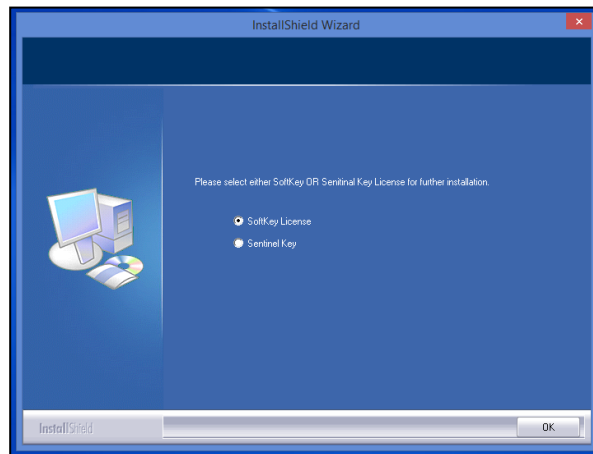

Figure 5. Software Key License
2. A warning message to activate the license will be displayed as shown in Figure 5.
- a. From the **CHOOSE AN OPTION** page (Figure 5), select **KEY ID**.
- From the **CHOOSE AN OPTION** page (Figure 5), select **KEY FILE (.skl)**.